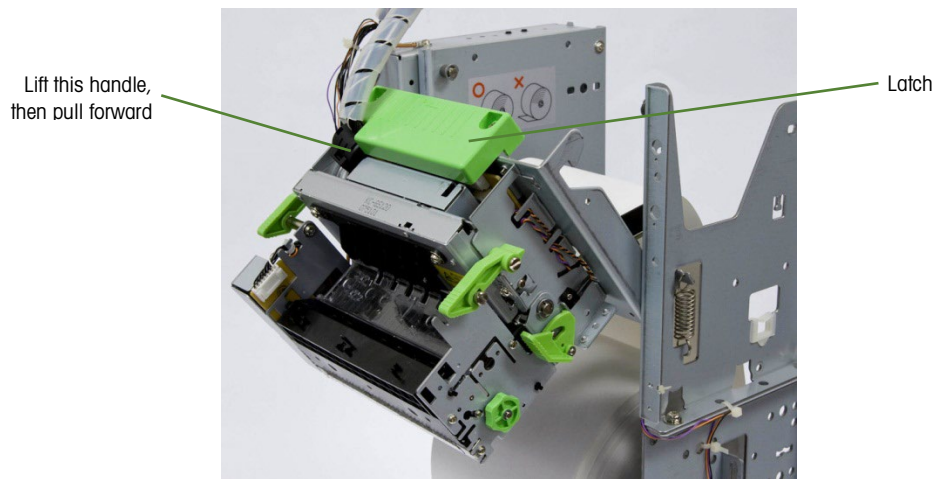

Figure 2-16: Star Printer, Print Head Released for Paper Loading
1. To load paper into the printer, the entire print head must be rotated forward by lifting up on the large, central green handle (Figure 2-16) to disengage the latch, then pulling forward.